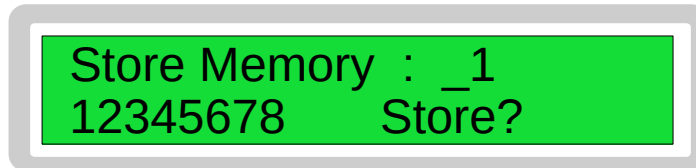

Figure 6: QuadTech Guardian 6000 Store memory location 1
- 3.5.2. Enter '**12345678**' and Press the **Enter** key, the screen will appear as in Figure 6.